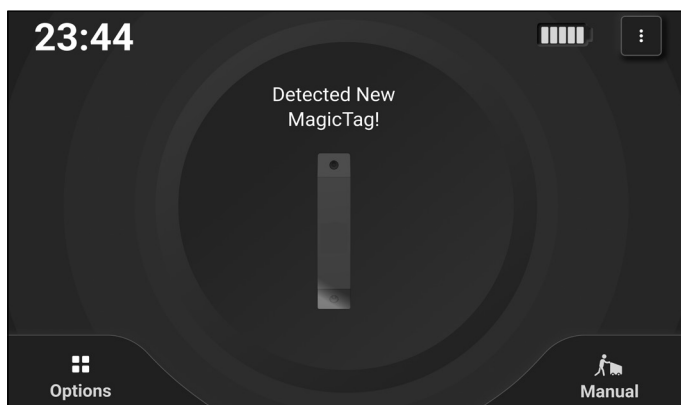
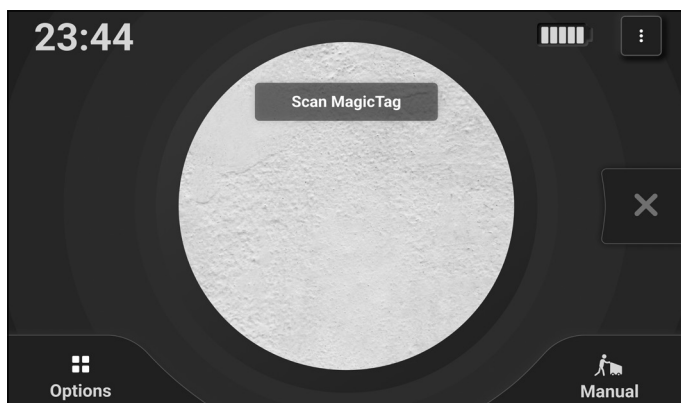

Figure 40
Figure 41
2. After the machine detects the MagicTag (**Fig. 40**), ensure that the MagicTag is within the camera frame on the touchscreen for it to be scanned (**Fig. 41**).